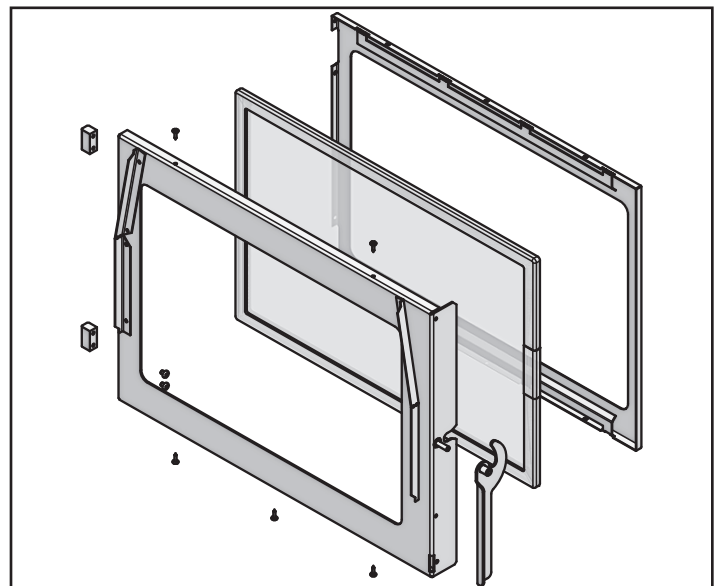

Figure 26.3
2. Using a Phillips head screw driver, remove 4 screws, 2 on the top and 2 on the bottom. Remove metal bracket and then remove the glass (**Figure 26.3**).